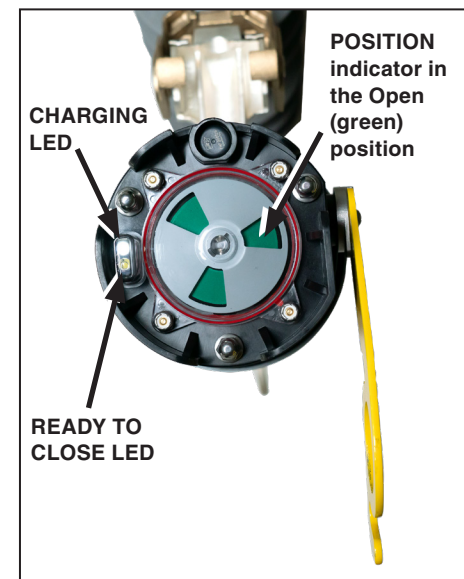

Figure 2. A VacuFuse II Self-Resetting Interrupter (vacuum interrupter open).
There are two LEDs on the base of the VacuFuse II interrupter. See Figure 2.
To open: Pull the yellow manual operating lever down firmly using the straight prong of the Talon tool or a distribution prong. Remove the tool right away. The vacuum interrupter inside the VacuFuse II interrupter will open, and the POSITION indicator will show the green target. See Figure 2 on page 1. After one minute and 45 seconds of the vacuum interrupter in the **Open** position, the VacuFuse II interrupter will drop out.
To close: Push the pull-ring of the manual operating lever up firmly using the straight prong of the Talon tool or a distribution prong. The vacuum interrupter inside the VacuFuse II interrupter will close after 45 seconds of sufficient voltage present at the cutout mounting, and the POSITION indicator will show the red target. See Figure 2. If the VacuFuse II interrupter is inadvertently closed into a fault, the vacuum interrupter will trip open independently of any force still applied to the manual operating lever.
- STEP 1.** Open the vacuum interrupter by pulling down on the yellow manual operating lever. Confirm the POSITION indicator at the base of the VacuFuse II interrupter displays a green target. See Figure 2 on page 1.